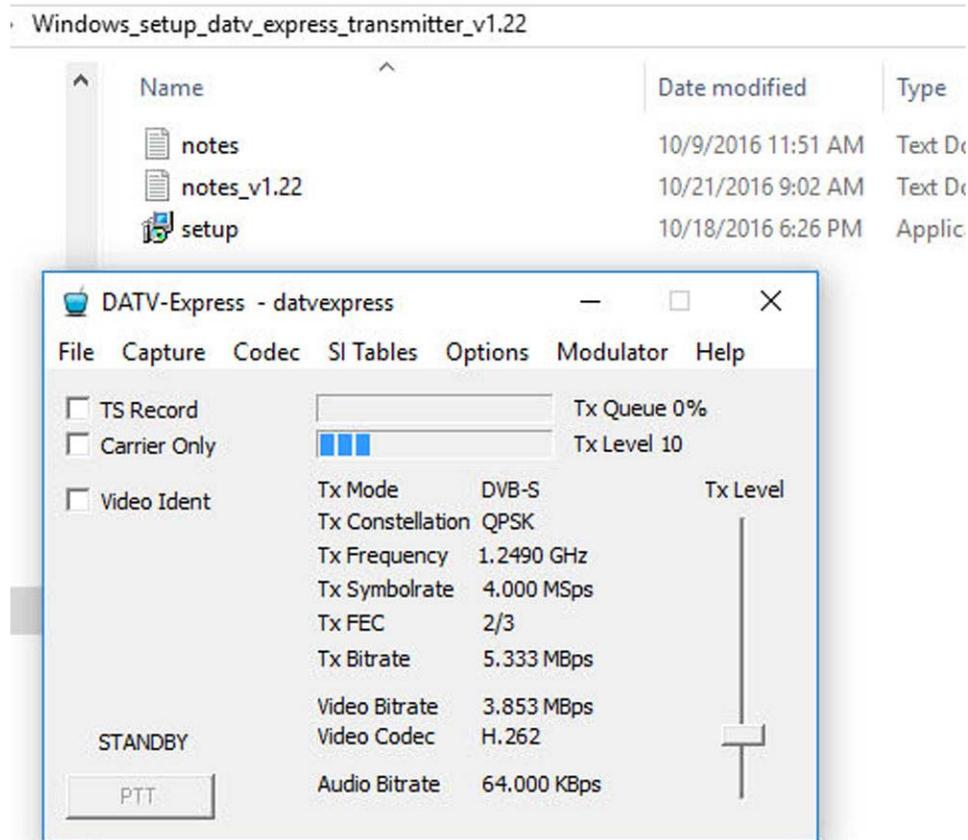

Figure 9 – The initial MAIN screen you should see after set-up is run
- Double-click on the desk-top icon. The main screen of Express_DVB-S/-S2_Transmitter software should open as shown in Figure 9. The PTT button will remain grayed out until valid video / audio selections are made and saved (see selections steps below).
- Select the CAPTURE TAB on the Main screen shown in Figure 9